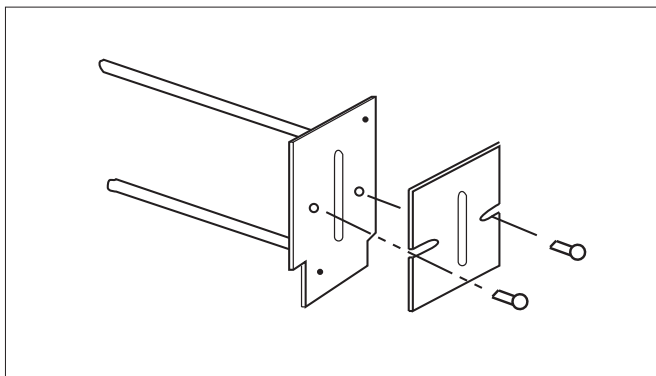

**Figure 6. Installing the Light Block**
1. The Light Source design allows simultaneous connection of two Light Aperture assemblies: one on the front and one on the back. If you are using only one Light Aperture and h/e Apparatus, install the Light Block (supplied with the Accessory Kit) in the mounting groove closest to the body of the housing on the back of the Light Source (see Figure 6).